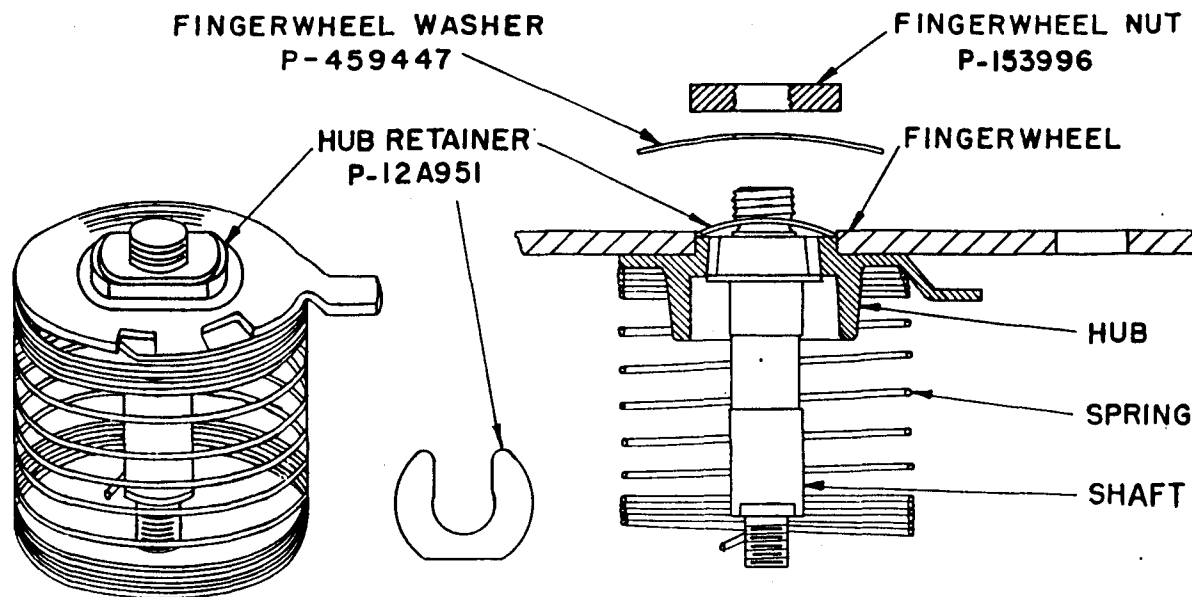

Fig. 12 — Dial Hub Retainer and Spring Washer
7.02 If for any reason fingerwheel hex nut is removed on dials of earlier manufacture not equipped with a black finished fingerwheel nut, the motor spring and hub assembly may jump out of its proper position. This condition can be prevented by use of hub retainer P-12A951, as shown in Fig. 12. To assemble, hold fingerwheel down while nut and washer are removed, and insert hub retainer. Replace dial if motor spring and hub assembly jump out of place.